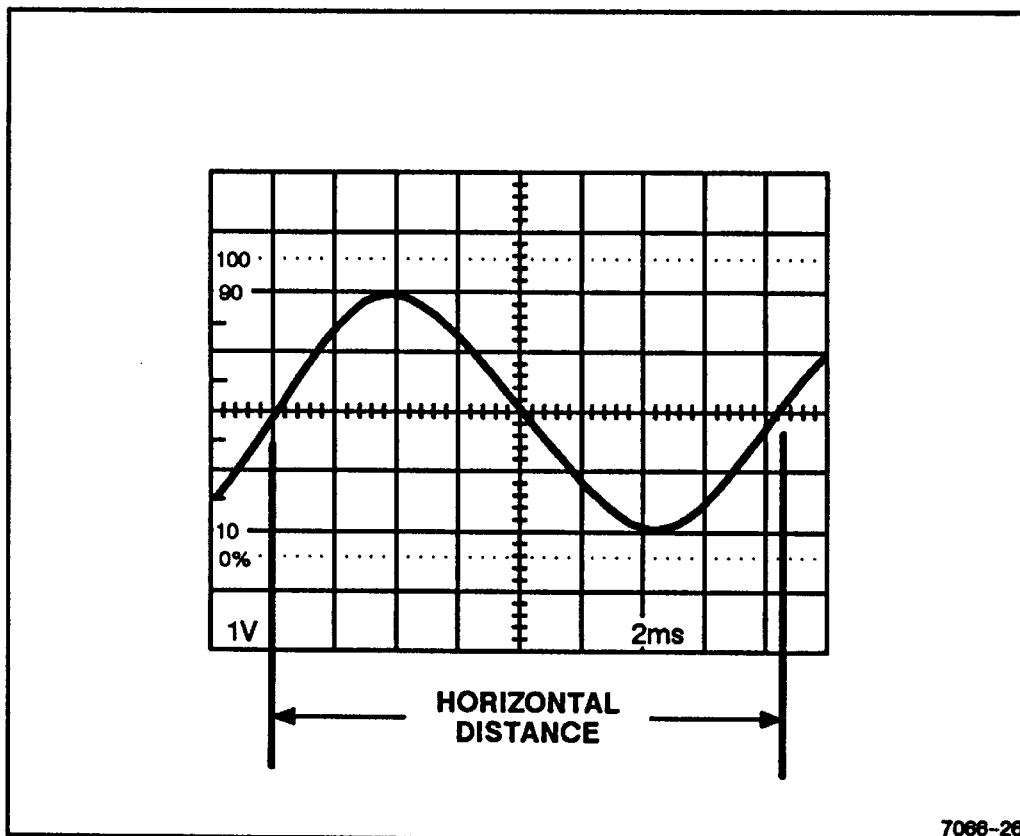

Figure 6-5. Time Duration.
5. Position the display to place the time-measurement points on the center horizontal graticule line (see Figure 6-5).
EXAMPLE: The distance between the time-measurement points is 8.3 divisions (see Figure 6-5), and the SEC/DIV switch is set to 2 ms. The X10 Magnifier switch is pushed in (1X magnification).
EXAMPLE: The signal in Figure 6-5 has a time duration of 16.6 ms.